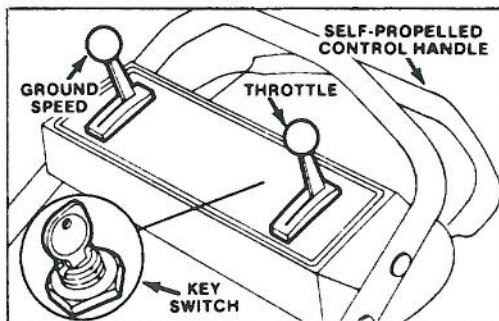

Figure 9
1. CONTROLS — Key switch (Key Start Models) throttle, ground speed control and self-propelled control bar are on upper handle (Fig. 9). Fingertip starter is on top of engine.
2. Push high tension wire onto spark plug and on self-propelled models move ground speed control to "N" (Fig. 9).
4. KEY-LECTRIC STARTING - Move throttle (Fig. 9) to CHOKE. Turn Key (Fig. 9) to START and release when engine begins running. Regulate throttle as desired.
5. TRACTION OPERATION (Self-propelled model) — Move ground speed control to desired setting and squeeze control bar against handle to drive. Ground speed varies, depending on space between control bar and handle.(Fig. 9).
6. STOPPING (Fig. 9) — release control bar to stop traction drive. Move ground speed control to "N" on self-propelled models. To stop engine, move throttle to OFF. Remove key from switch or pull wire off spark plug if mower is unattended or not used.